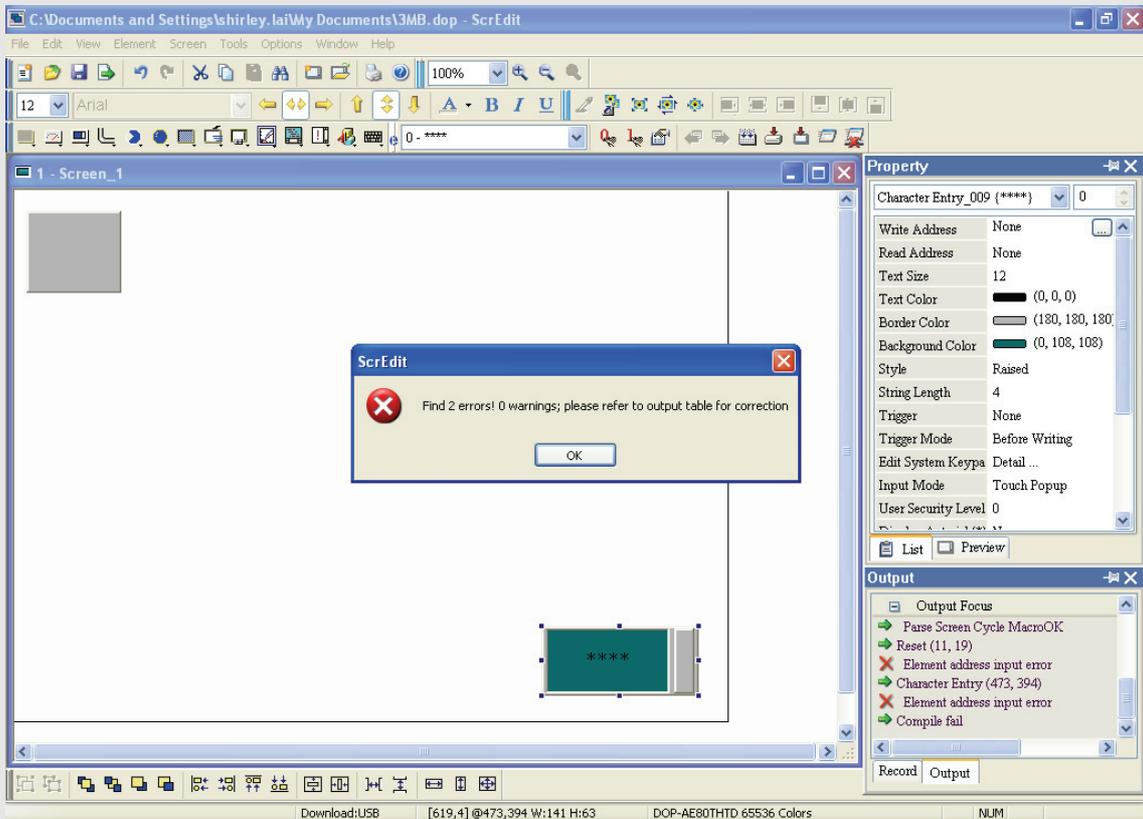

Fig. 2.8.3 Compiling errors during compiling process
- When pressing  icon to execute compile operation, error message dialog box will pop up to warn the user of compiling error and show how many errors there are. In Fig. 2.8.3, we can see that there are two errors occurred and they are all displayed in the output window.